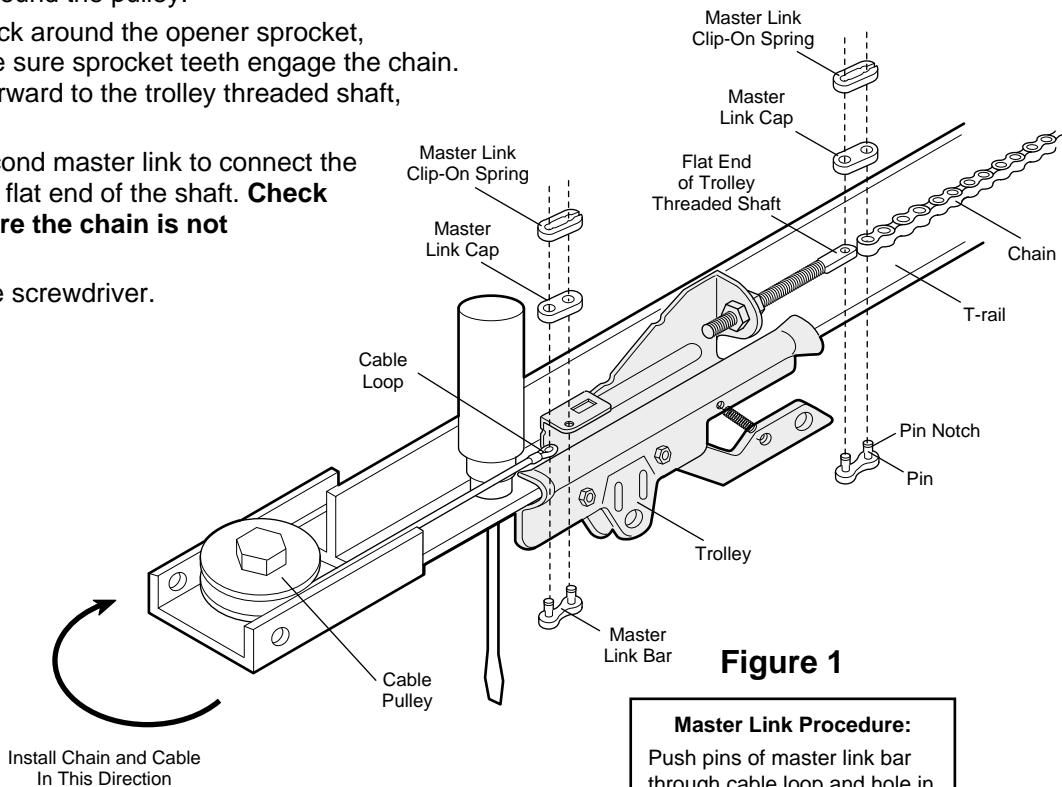

Figure 1
- Detach the cable loop from the carton and fasten it to the trolley with a master link from the hardware bag. See master link procedure, Figure 1.